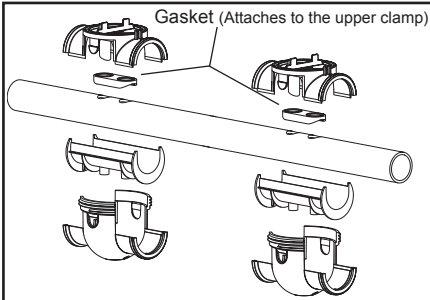
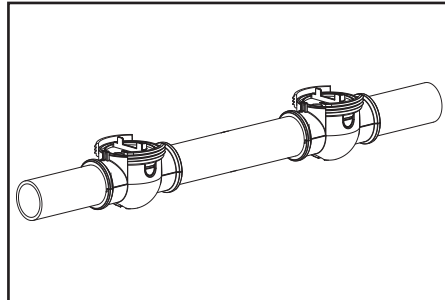

Figure 10. Cell Clamps
Figure 11. Water Flow Arrows
10. Secure the clamps, pipe spacer, and gasket around the pipe as shown (see Figure 10) making sure the flow arrows on the clamp point in the direction of the water flow (see Figures 11 and 12). Make sure the two (2) clips on the sides of the clamp are snapped into place.